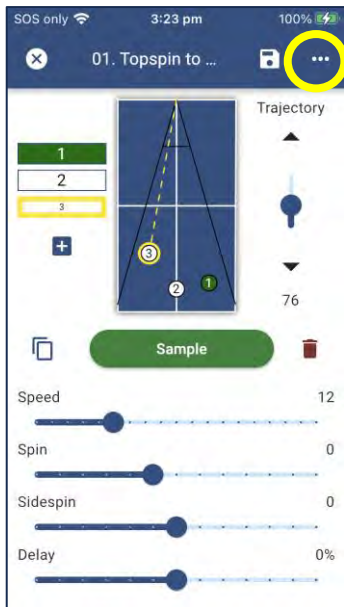

Figure 3-27
3. Touch the “...” menu in the top right corner. (See Figure 3-27)